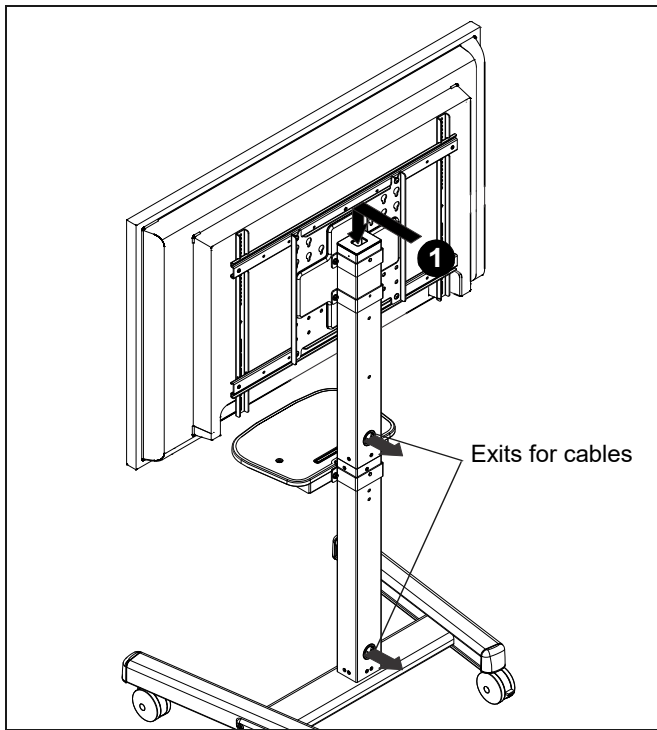

Figure 18
1. The display power cord, as well as any signal cables or accessory power cords, can be run through the top and down through the post to exit out the back. (See Figure 18)